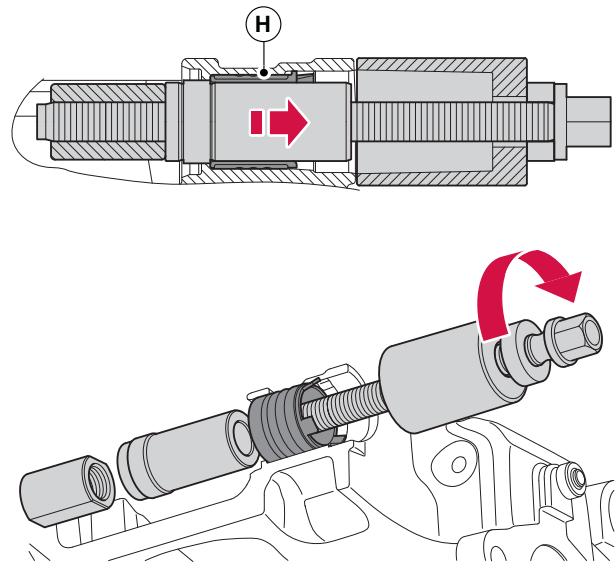

Figure 56. Remove the trailing side composite bushing
10. The composite bushing (H) on the trailing side should be removable by hand.
11. However if this is not possible, assemble in sequence Haldex special tool P/N's 95230, 95423, 95222, 95219 and 95220, as shown in figure 56.